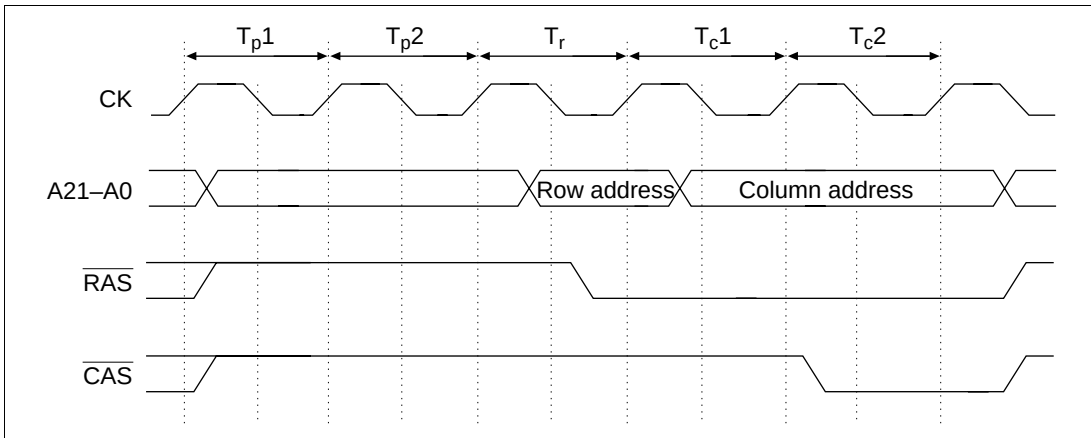

**Figure 8.19 Precharge Timing (Long Pitch)**
**Precharge State Control:** When the microprocessor clock frequency is raised and the cycle period shortened, 1 cycle may not always be sufficient for the precharge time for the  $\overline{RAS}$  signal when the DRAM is accessed. The BSC allows the precharge cycle to be set to 1 state or 2 states using the  $\overline{RAS}$  signal precharge cycles bit (TPC) in DCR. When the TPC bit is 0, the precharge cycle is 1 state; when TPC is 1, the precharge cycle is 2 states. Figure 8.19 shows the timing when the precharge cycle is 2 states.